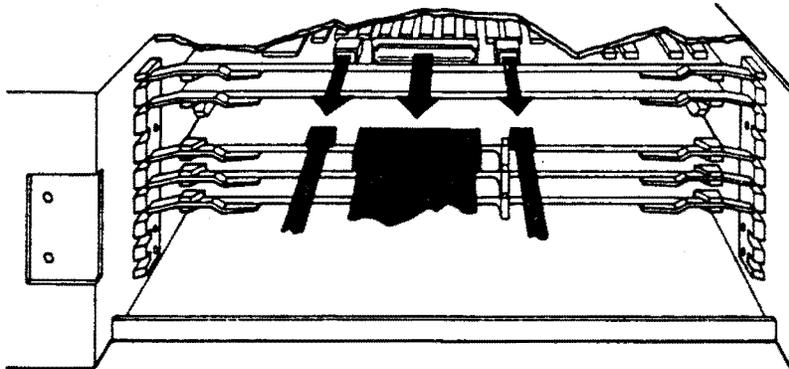

Figure 4-4: Module Cable Removal
7. Disconnect any cables connected to the module (Figure 4-4). Note: the module may first have to be partially withdrawn, before the cable(s) can be removed.